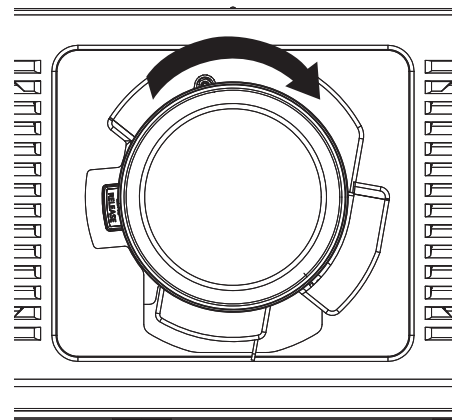

Fig. 3
3) Turn the projection lens clockwise until it clicks. (Fig. 3)